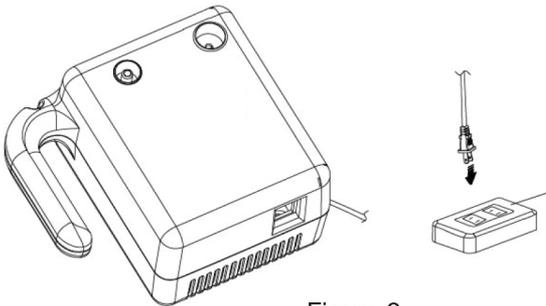

Figure 9
1. Take the power cord and plug into an electrical outlet. (Figure 9)